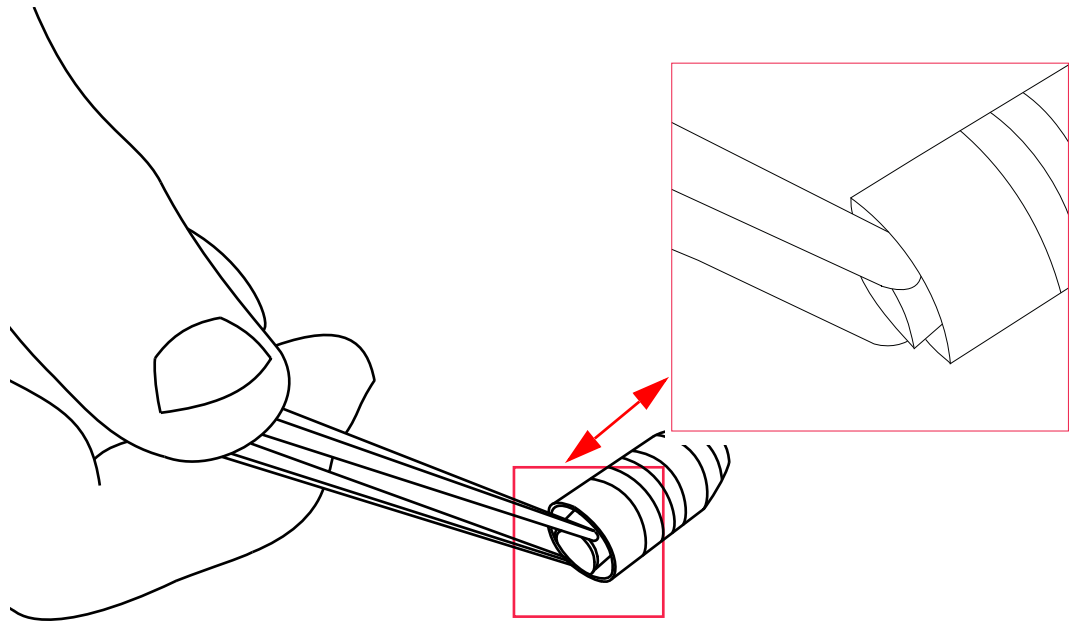

Figure 7-5 Fixing of the inner part of the connector with tweezers
- 2** Fix the inner part of the connector with tweezers (see Figure 7-5 Fixing of the inner part of the connector with tweezers).
- 1 Fix the inner part of the connector with tweezers (see Figure 7-5 Fixing of the inner part of the connector with tweezers).